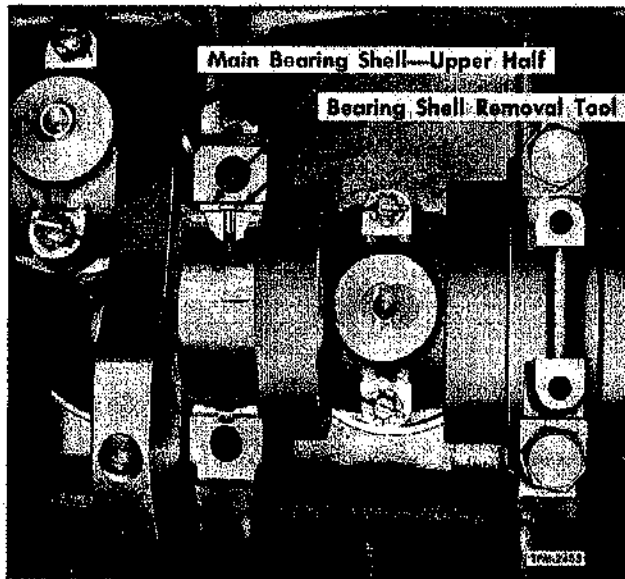

Figure 21—Removing Main Bearing Upper Shell
When removal of upper half of main bearing shells becomes necessary and the removal of the crankshaft is undesirable, this operation can be performed by using the following procedure and by referring to figure 21. All main bearing journals except the rear are drilled for an oil passage. The procedure, therefore, for removing the upper half of the shells, with crankshaft in place, is somewhat different on the drilled journal than on the rear that is not drilled.
5. The bearing cap having been removed, insert a $\frac{3}{8}$ " x 1" bolt with a $\frac{1}{2}$ " diameter and a $\frac{1}{16}$ " thick head into the crankshaft main bearing oil hole; then revolve shaft in direction necessary to move notch lock from its recess and roll the bearing shell out of position, as shown in figure 21. The head of the bolt should not extend beyond the outside diameter of the shell.